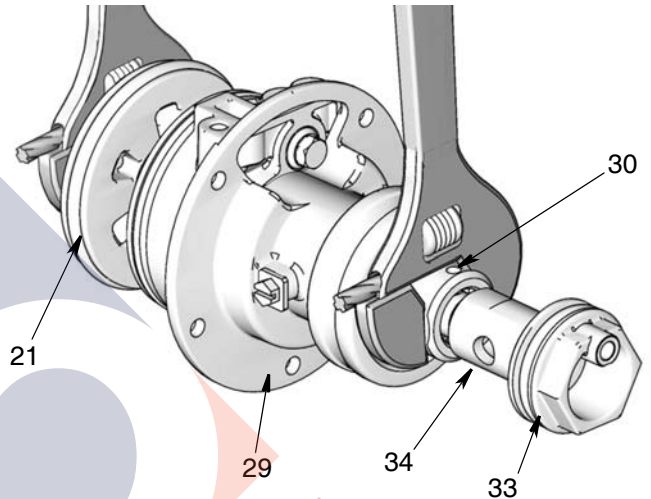

**Fig. 5**
- Using a 10 mm socket wrench, remove the 5 screws (4) from the flange (29). Using your hand, firmly grasp the end of the displacement rod (30) and remove the entire assembly from the air cylinder (27) (Fig. 5).
**NOTE:** Sliding the flat blade of a screw driver between the flange (29) and air cylinder (27) will help separate the two parts. Exercise caution, however, to not damage the o-ring (6).